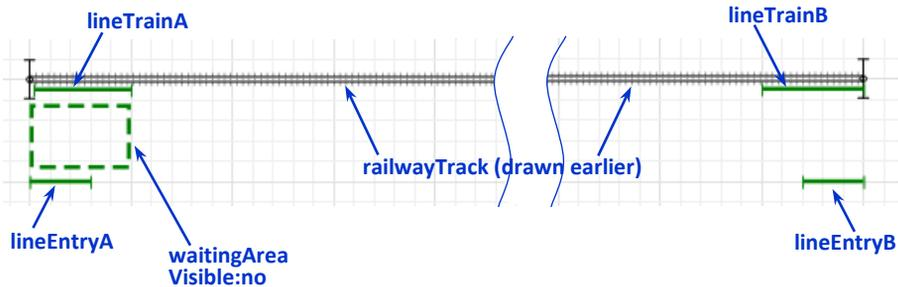

Figure 9.28 Markup of the pedestrian ground
10. Open the **Pedestrian Library** palette and draw the space markup as shown in Figure 9.28. Use the **Target Line** element to draw four target lines denoting entry places and destinations for pedestrians.